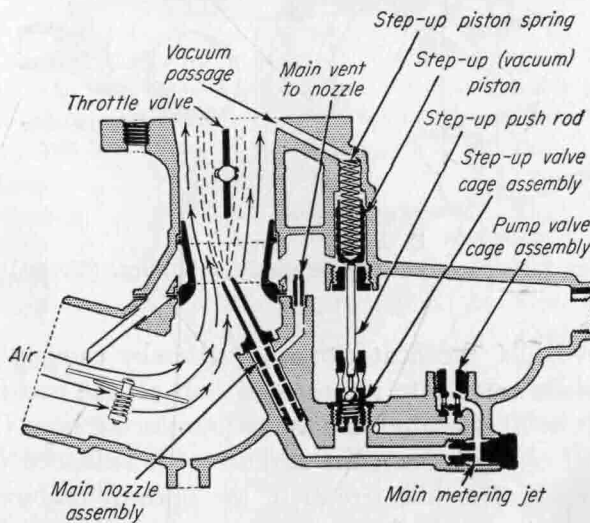

FIG. 5-12. High-speed circuit in updraft carburetor. Arrows represent air flow, dashed lines fuel flow. (Carter)
3. *High-speed circuit.* The high-speed circuit in the updraft carburetor (Fig. 5-12) also operates much like the high-speed cir-